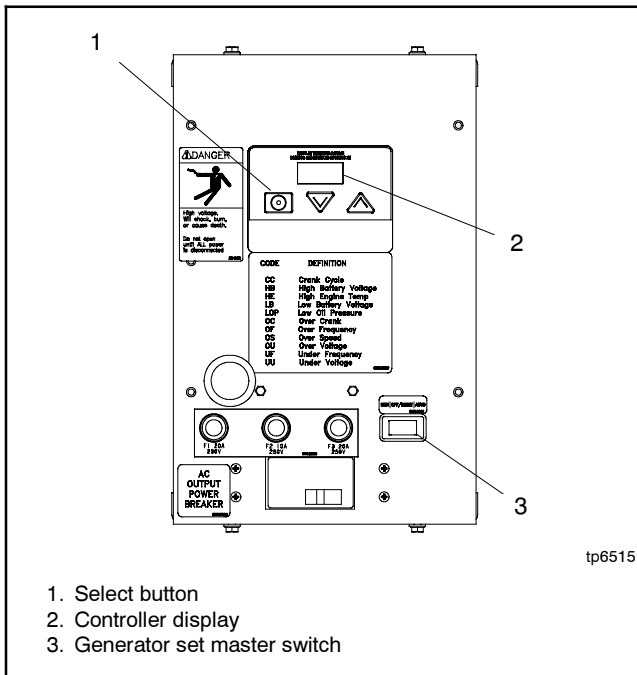

Figure 24 ADC-RES Controller and Master Switch
1. Move the generator set master switch to OFF/RESET. See Figure 24.